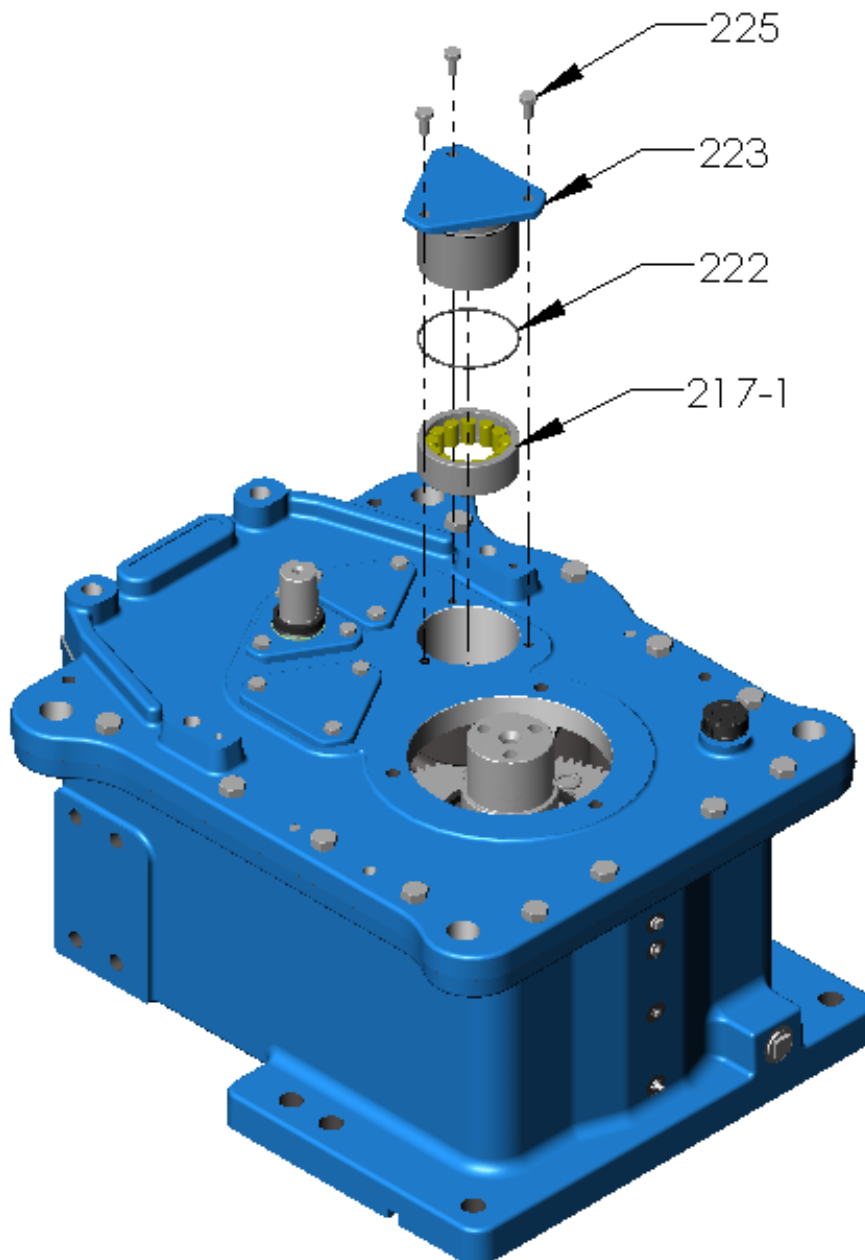

Figure 24 – 2nd Intermediate Cap
- U. At 2nd intermediate shaft, install following items (refer Figure 24):